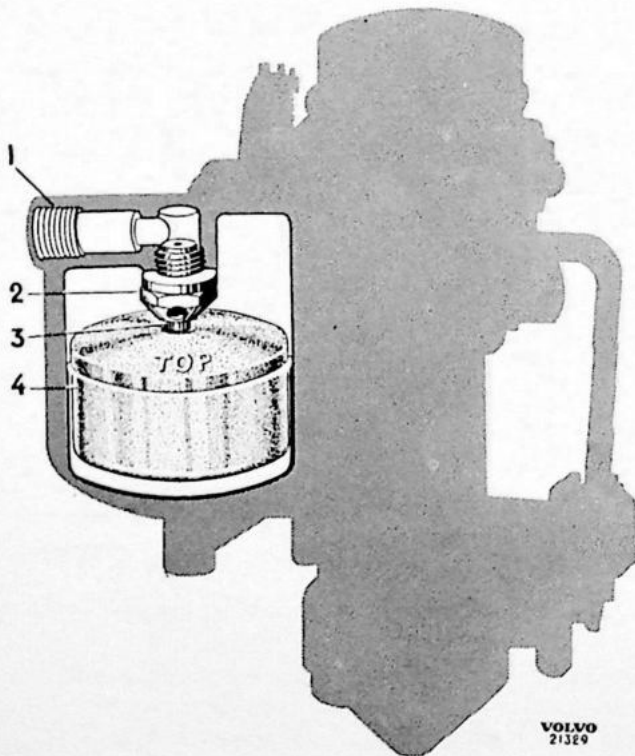

Fig. 16. Fuel inlet system.
The purpose of the fuel inlet system, Fig. 16, is to establish and maintain correct fuel level in the carburetor under all driving conditions. The fuel first passes through a strainer in inlet fitting (1) and from there down to fuel inlet valve (2). The float (4) is cylindrical and loosely placed in the float bowl; it acts direct on the valve needle (3).